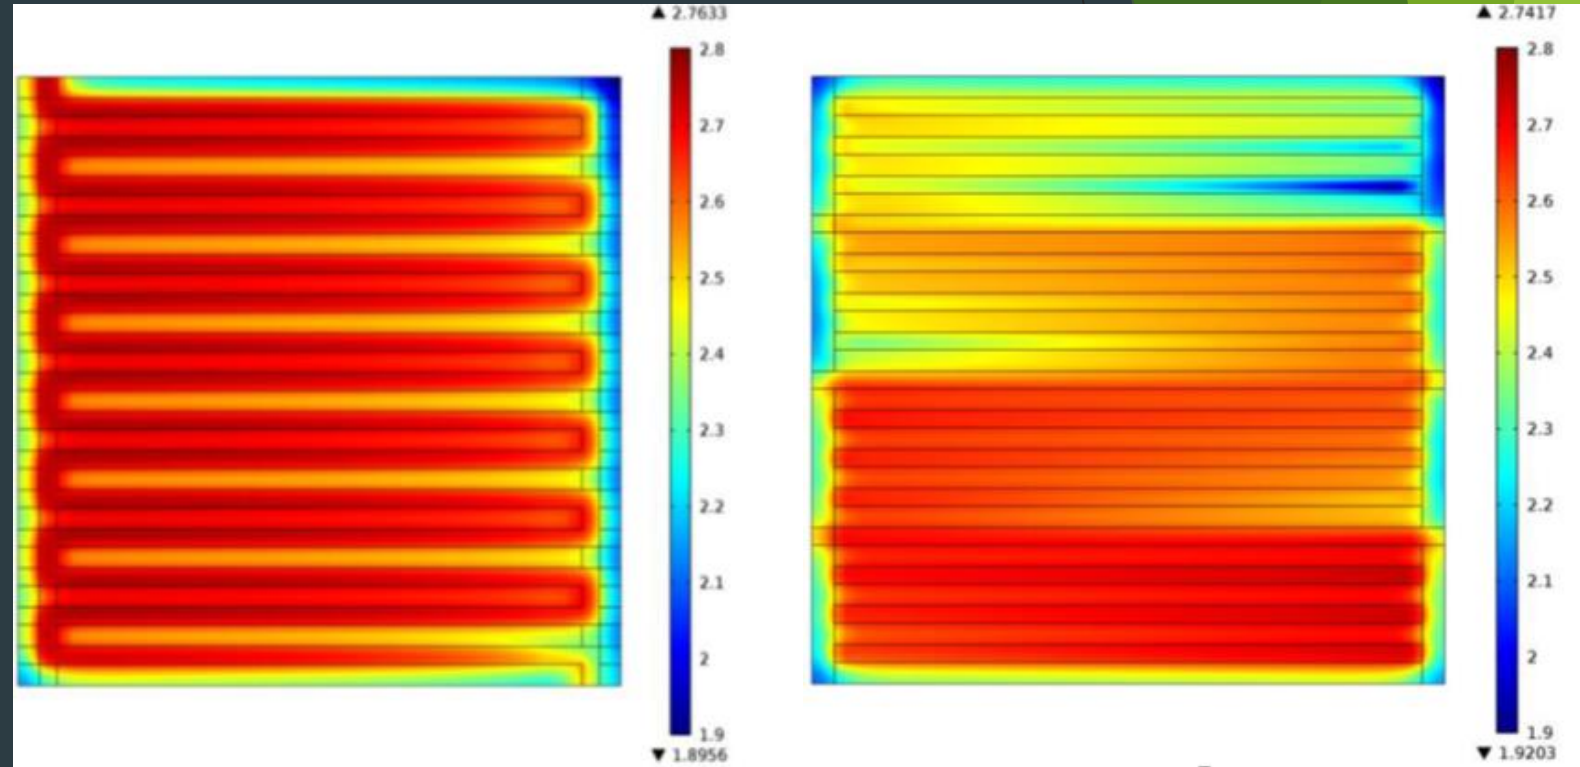

Fig. 6: Thermal Imaging Interdigitated (left) Serpentine (Right)
- ▶ Max Heat ≈ 393.15 K (Shown in Fig. 6 in red)